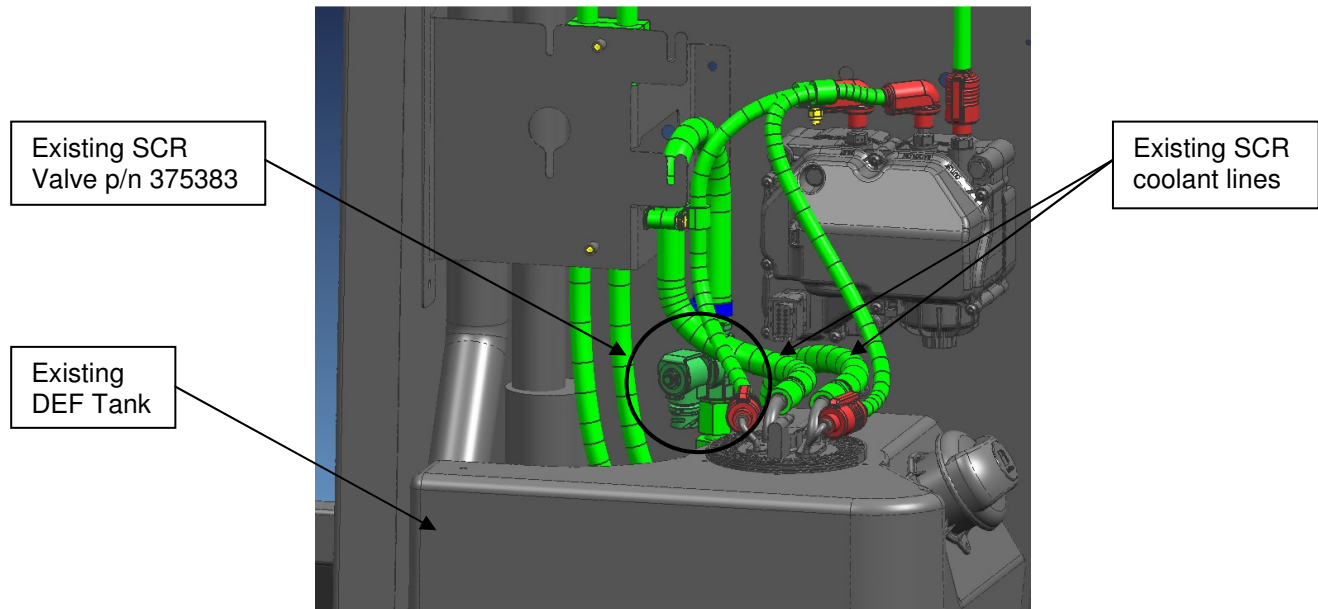

Figure 1: SCR Coolant Valve Location
2. Open the curbside corner pillar door and locate the SCR coolant valve. See Figure 1.